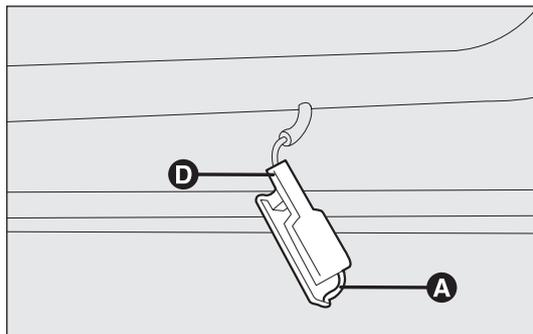

fig. 181
## PUDDLE LIGHTS fig. 181
- remove the light by pressing clip A-fig. 181 with a screwdriver;
- refit the light by first inserting side D-fig. 181 and then pressing the other side until you hear the clip lock into place.